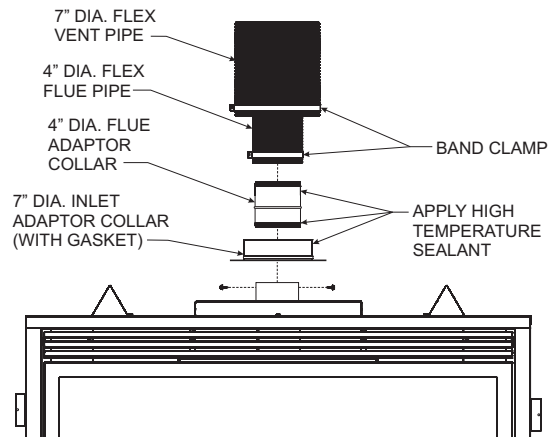

Figure 42
10. Apply sealant to the outside of the flue pipe adapter and connect to the flex flue pipe. Then insert the adapter into the fireplace flue. Secure flue adapter to the fireplace flue with a minimum of two screws provided. **See Figure 42.**